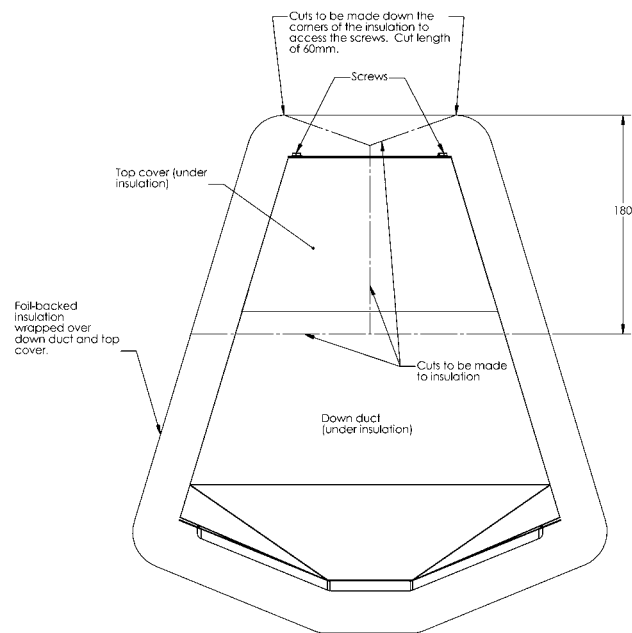

Figure 4: Accessing the Baffle
- Cut the foil-backed insulation as outlined in Figure 4 and peel back the flaps to enable access to the top cover and the screws that secure it.